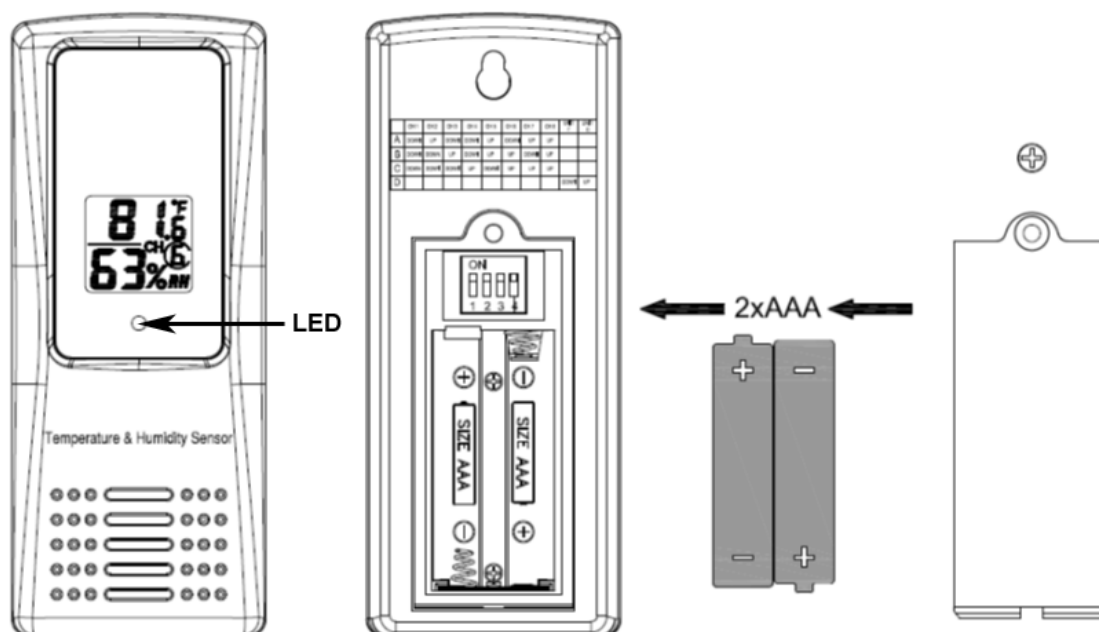

Figure 1
1. Remove the battery door on the back of the sensor by removing the set screw, as shown in Figure 1.